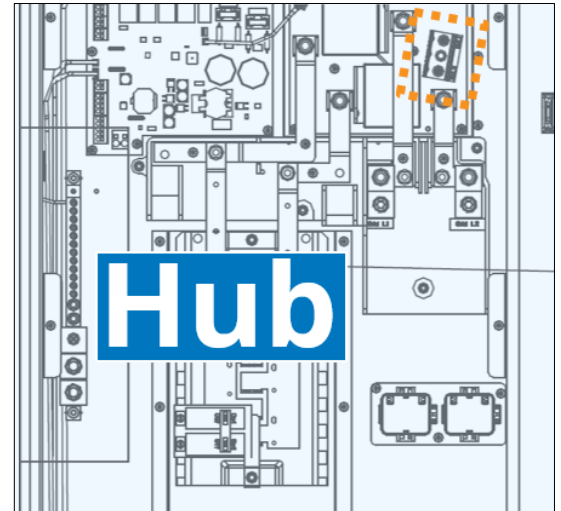

Figure 17: Location of main Hub PCB connector
6. Fabricate and install a 20" copper L1 (black) and a 20" copper L2 (red) power conductor to route inside the Hub, from the main Hub PCB connector to the new non-backup panel (Figure 17):